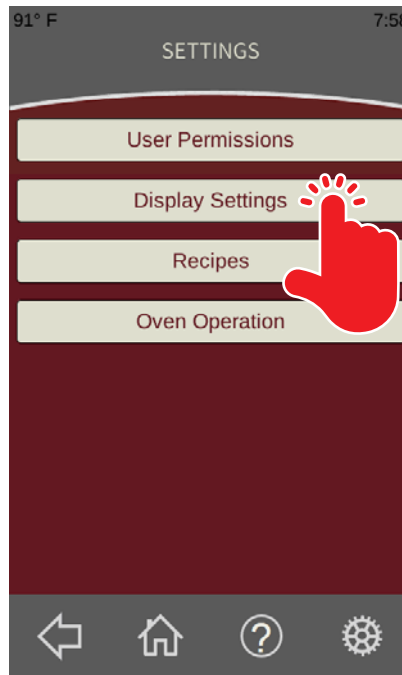

Fig. 57
1. From the **Settings Screen** (Fig. 57) touch the User Permissions button (Fig. 57). The **Display Settings Screen** should be displayed.